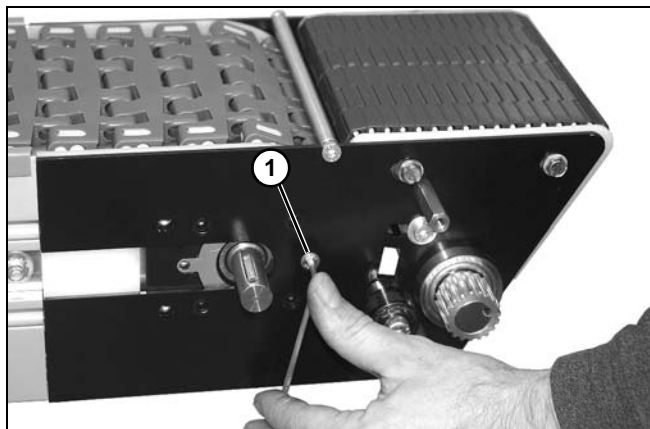

Figure 116
8. Remove socket head screw (Figure 116, item 1) from power transfer tail. Repeat on opposite side.